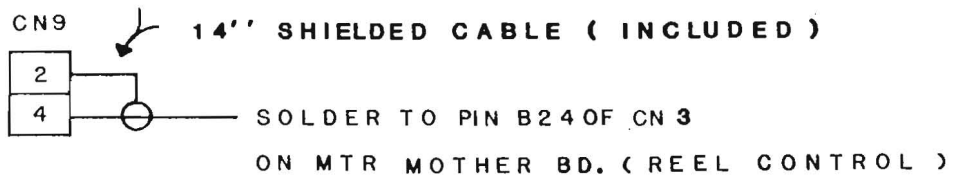

Fig. 3-3
- (2) For MTR-10II/12II, connect Cable Ass'y B to the back of the MTR-10II/12II mother board and connect to the sub-mother board as shown by Fig. 3-3.
- (3) For both Cable Ass'y A and Cable Ass'y B, connect CN3, CN4 and CN5 to CN3, CN4 and CN5 of the time code sub-mother PCB.